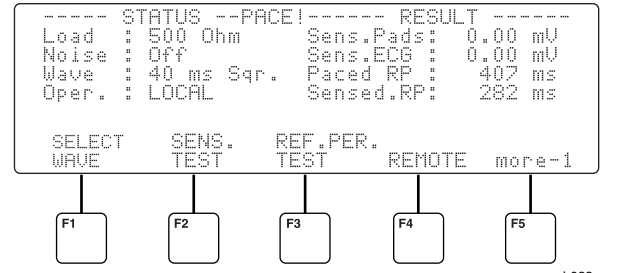

Figure 31. Refractory Period Test Results
2. Upon completion of testing, the results appear under **RESULT**. See Figure 31. Press **REF. PER. CANCEL (F5)** to end the test.